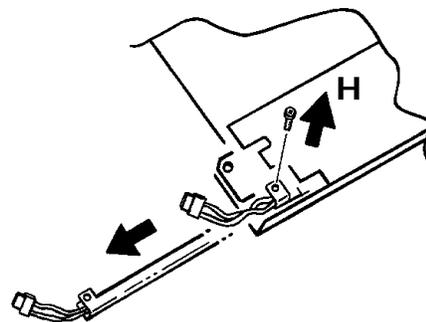

Figure 4.13.1k Tube removal
- Undo the tube securing screw ('H' in figure 4.13.1k) and carefully extract the lamp.